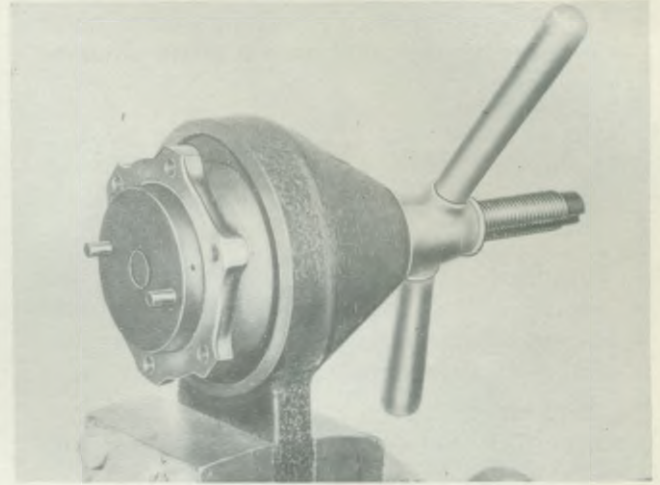

Fig. 7. Installing outer ring of wheel bearing in housing—Tool No. 20S-93
2. Fit outer ring of bearing in housing as shown in Fig. 7. Refit key.